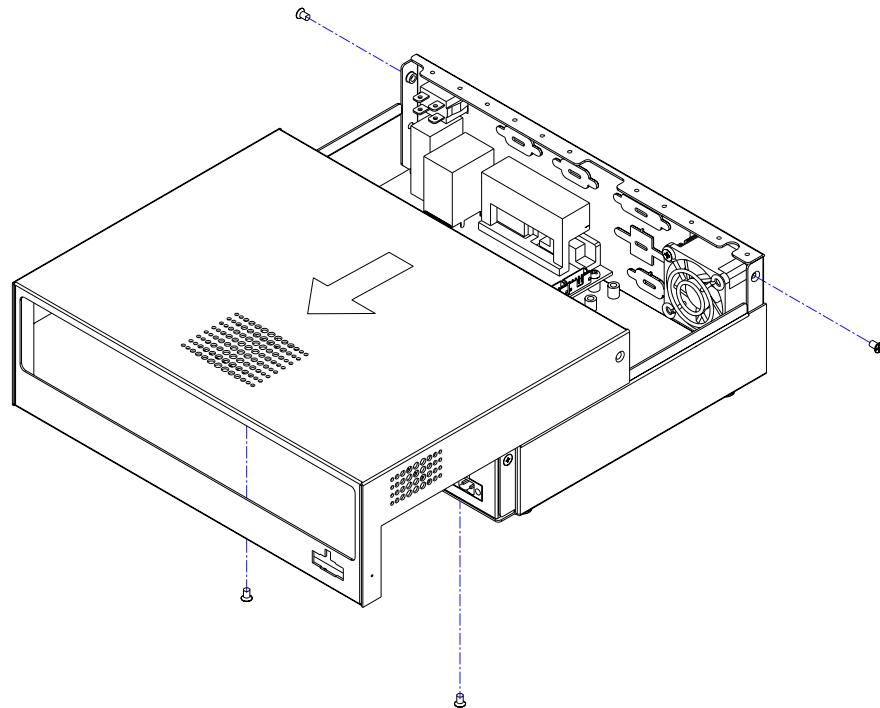

Figure 2.1 Removing the top cover
3. Pull forwards the top cover and then lift it up. (see Figure 2.1)